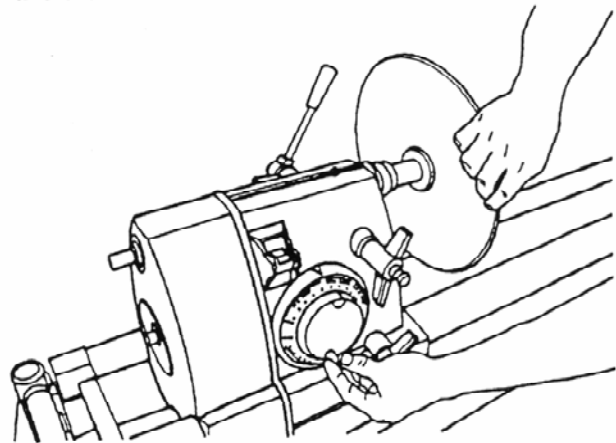

Fig. 7
11. Mount the sanding disc on the main spindle. Turn the disc by hand and gently turn the speed dial from "Fast" to "Slow". See Fig. 7. Remove the disc.